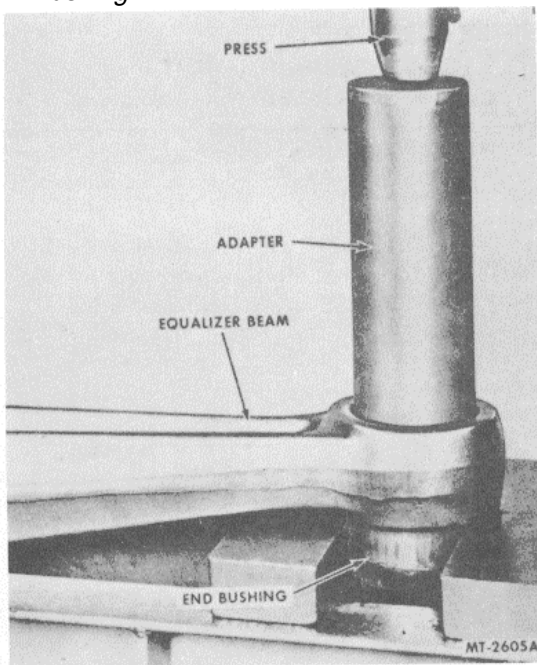

Fig. 8. Removing Equalizer Beam End Bushing
3. Support beam in press. Using a piece of standard tubing (which will contact the bushing sleeve) as an adapter, press the bushing from the beam. See Fig. 8.